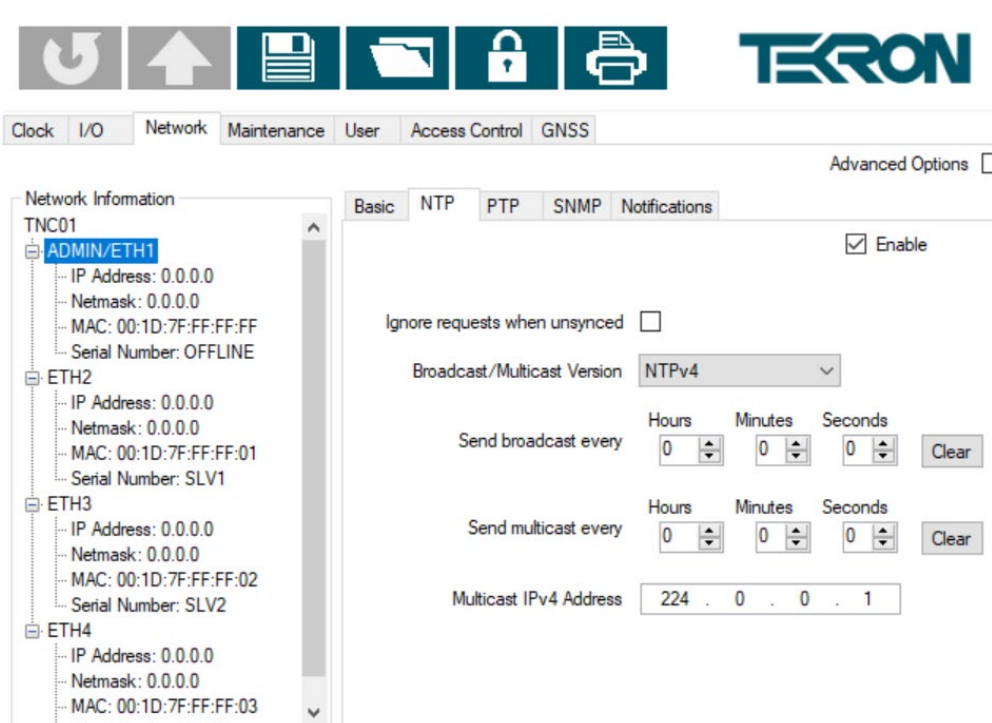

Figure 43 - "NTP" sub-tab
If Tekron's Configuration Software is connected to a clock which supports Network Time Protocol (NTP), and the NTP license has been activated, then the NTP sub-tab will be present. Refer to Figure 43.
**"Send broadcast every":** By default, this option is set to 0 hours, 0 minutes and 0 seconds, which means the port never sends NTP broadcast messages (NTP broadcasts disabled). If the user wishes to configure the port to send periodic NTP broadcast messages within the sub-net, the user can select a specific interval in hours, minutes and seconds as shown in Figure 43. The "Clear" button resets the interval to 0.
NTP multicast messages within the sub-net, the user can select a specific interval in hours, minutes and seconds as shown in Figure 43. The “Clear” button resets the interval to 0.